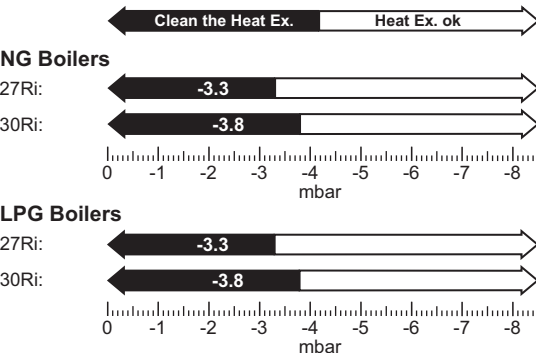

Fig. 60 Fan pressure readings
- ▶ The pressure will read negative, refer to the chart in figure 60 below.